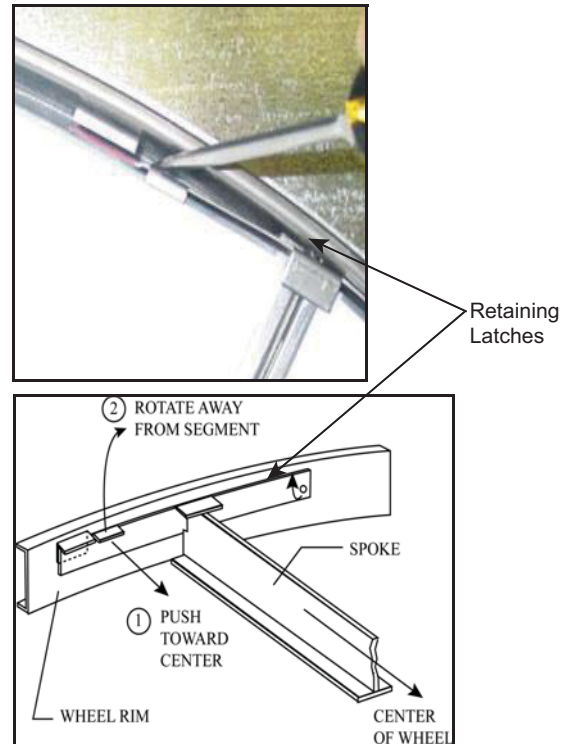

Fig. 34 — Release Retaining Latches
4. Using a flathead screwdriver, unlock and open the two segment retaining latches, at the outer corners of the segment to be removed. See Fig. 34 for example of releasing retaining latches.
2. Begin by positioning one empty segment bay at the top of the wheel and opening the two retaining latches. See Fig. 34 to release retaining latches.
4. Close the retaining latches on outer corners of segment to secure the segment inside the wheel. See Fig. 34 for example of closing the retaining latches.